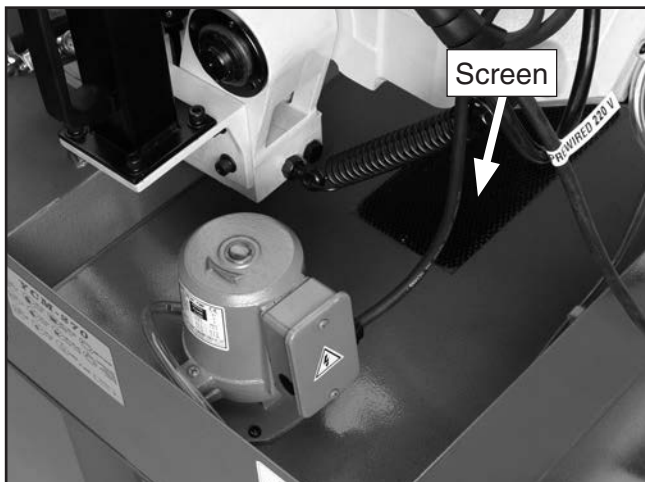

Figure 11. Cutting fluid system reservoir and cover.
3. Fill the reservoir (**Figure 11**) with your chosen cutting fluid solution and replace the screen.